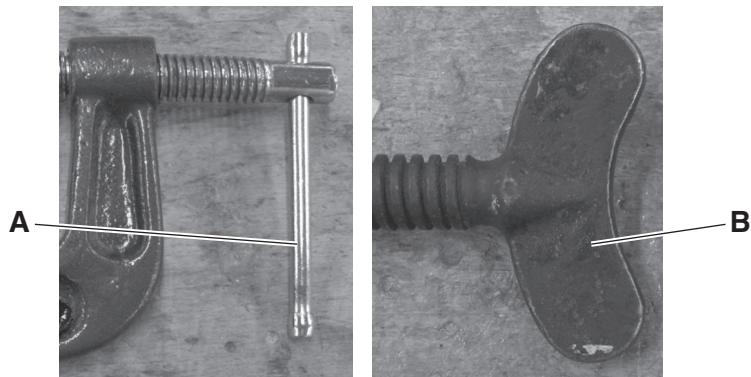

Fig. 5
- (b) Fig. 5 shows two operating handles that can be used in G cramps.